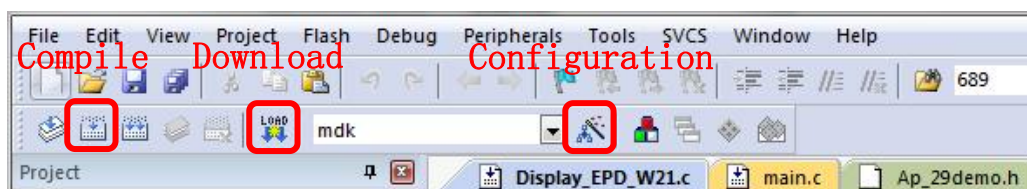
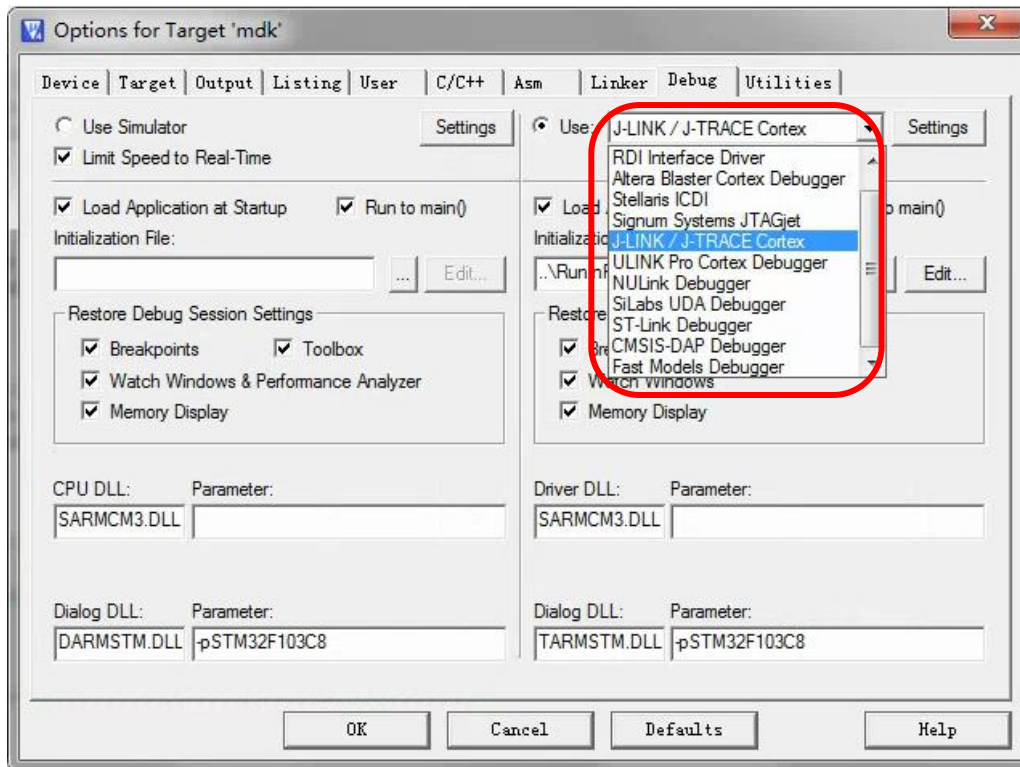

Figure 10 : Keil4 toolbar
Figure 11 : Choose the simulator model
3) The Keil4 toolbar is shown in Figure 10. Please click  at the first time using the simulator and a box like Figure 11 will pop up. Choose the simulator model of yours in the "Debug" bar, and click "OK" to confirm.
- 5) Click  in the toolbar in Figure 10 to compile.
- 6) Click  in the toolbar in Figure 10 to download.
- 9) If you want to change a image, you need to use Keil4 to change the image data (Figure 12), compile it (Figure 10) to generate a new mdk.hex file, and then re-select the file to download it.